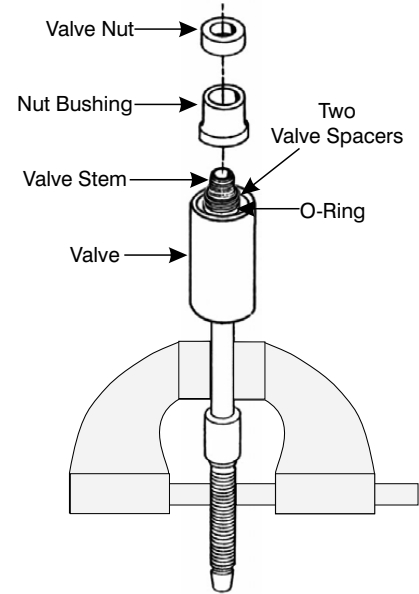

Figure 8-22. Remove Valve Nut and Nut Bushing from Valve Stem.
4. Thread the Valve Nut (3) from the Valve Stem (8) as shown in Figure 8-22.
5. Remove the Nut Bushing (4) as shown in Figure 8-22.